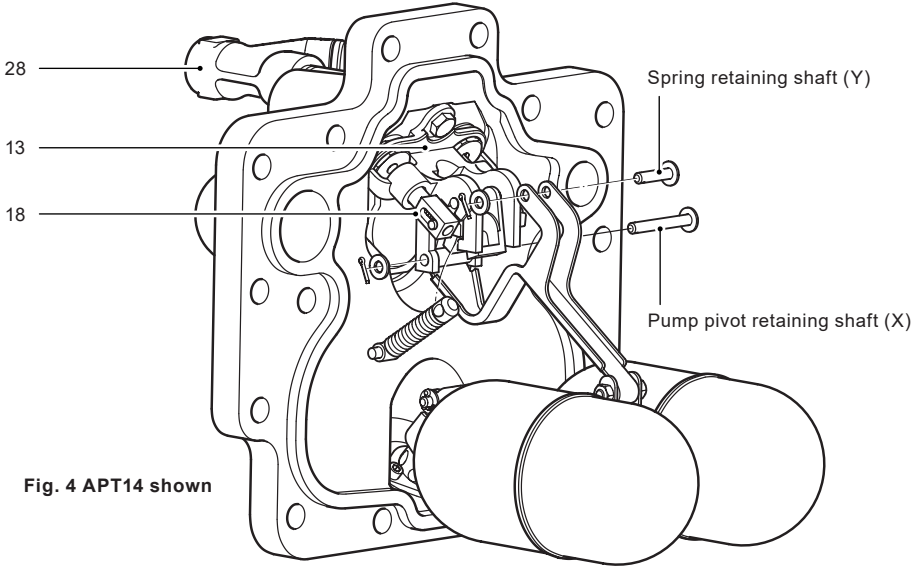

Fig. 4 APT14 shown
4. Remove split pins, washers, and shafts (X and Y) from the top spring pivot and pump pivot points (See Figure 4).
7. Remove the exhaust valve from the actuator arm (item 24, shown in Figure 4) being careful not to damage or lose the small exhaust valve compression spring.
15. Carefully reconnect the motive steam supply and the exhaust lines to the connections marked (S) and (E). The APT14, APT14HC or APT14SHC is now ready to recommission.
16. Make sure that the Spirax Sarco motive supply strainer (with 100 mesh screen) is reinstated to the motive supply connection (item 28, Figure 4).